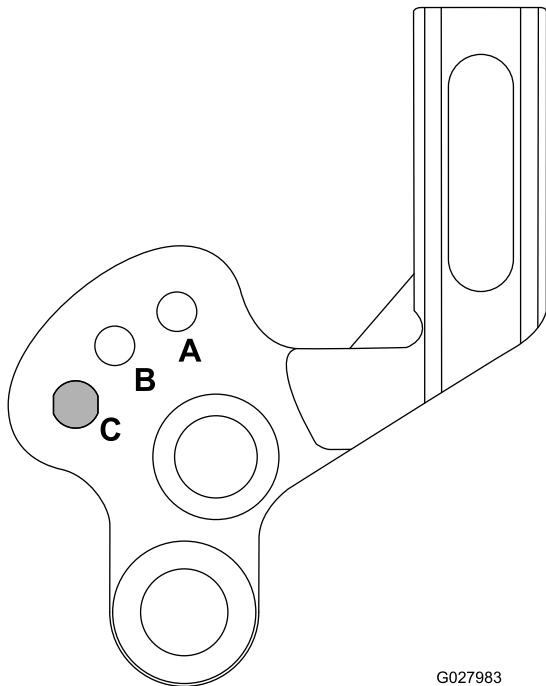

Figure 19
- B. Rotate the arms up or down to the A or B position (Figure 19).
When you wish to mow without the groomer or need to transport the machine, raise the grooming reel into its raised transport position as shown in Figure 19.